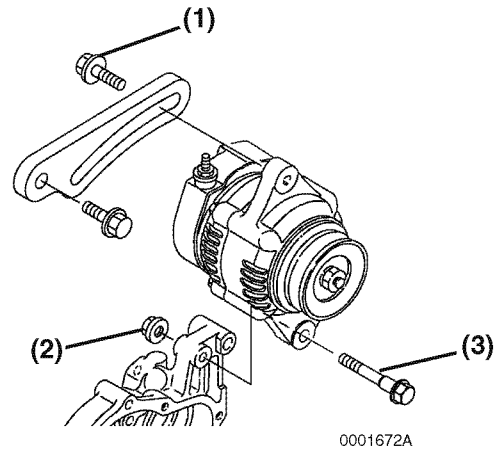

Figure 11-2
3. Remove the V-belt adjuster to alternator bolt (Figure 11-2, (1)).
4. Remove the nut (Figure 11-2, (2)) and bolt (Figure 11-2, (3)) from the gearcase. Remove the alternator.